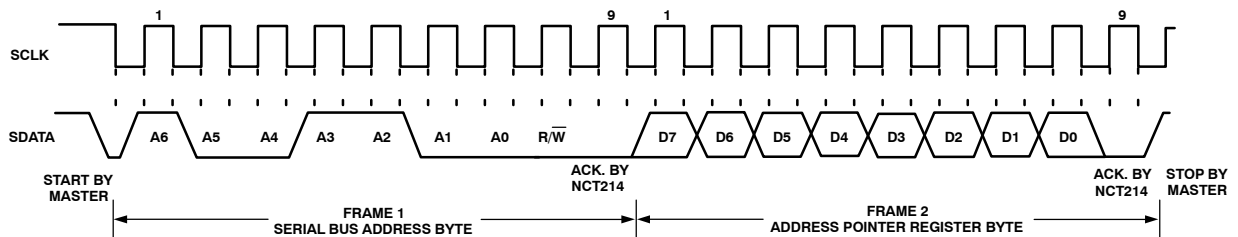
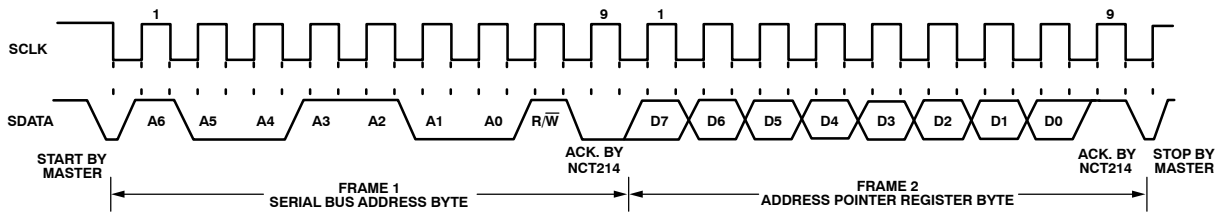

Figure 16. Writing to the Address Pointer Register Only
Figure 17. Reading from a Previously Selected Register
- If the address pointer register value of the NCT214 is unknown or not the desired value, it is first necessary to set it to the correct value before data can be read from the desired data register. This is done by writing to the NCT214 as before, but only the data byte containing the register read address is sent, because data is not to be written to the register see Figure 16. A read operation is then performed consisting of the serial bus address, R/W bit set to 1, followed by the data byte read from the data register see Figure 17.
- If the address pointer register is known to be at the desired address, data can be read from the corresponding data register without first writing to the address pointer register and the bus transaction shown in Figure 16 can be omitted.